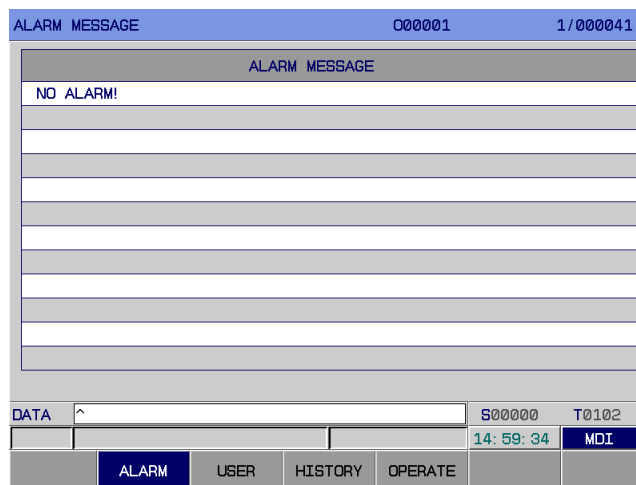

Fig.3-7-1
case, press  to display alarm page. It contains 4 display interfaces: [alarm], [user], [history], [resume], which are switched through corresponding softkeys (See Fig.3-7-1 ~ Fig.3-7-4). It is allowed to set whether to switch to alarm interface or not in the case of an alarm, through Bit Para N0: 24#6.
1. Alarm interface: On <alarm> interface, press [alarm] to enter the alarm interface, as shown in Fig.3-7-1: